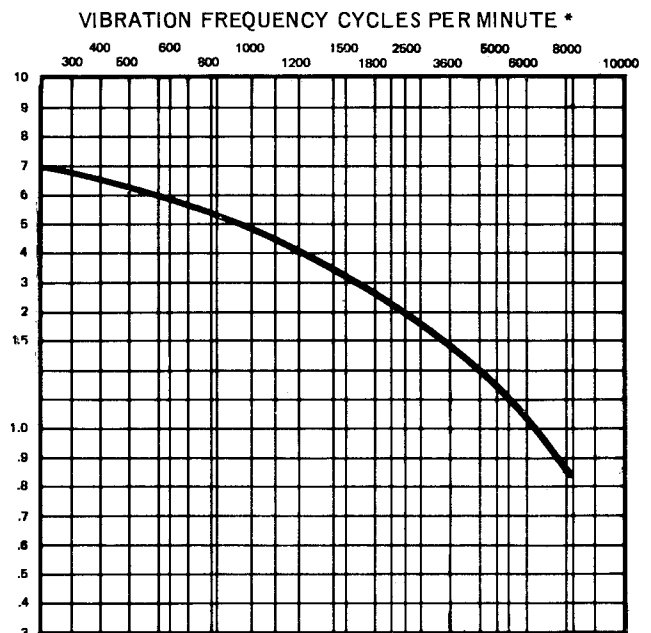

FIG. 6-3 - VIBRATION FREQUENCY CHART
7. After vibration check (Figure 6-3) pump is ready for service. **ALWAYS CHECK VIBRATION.**